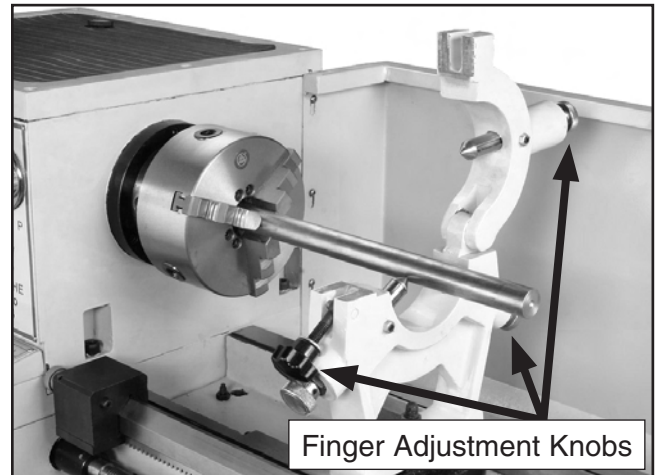

Figure 42. Workpiece in steady rest.
3. Loosen the knurled screw and open the steady rest so a workpiece can fit inside of the fingers (see **Figure 42**).